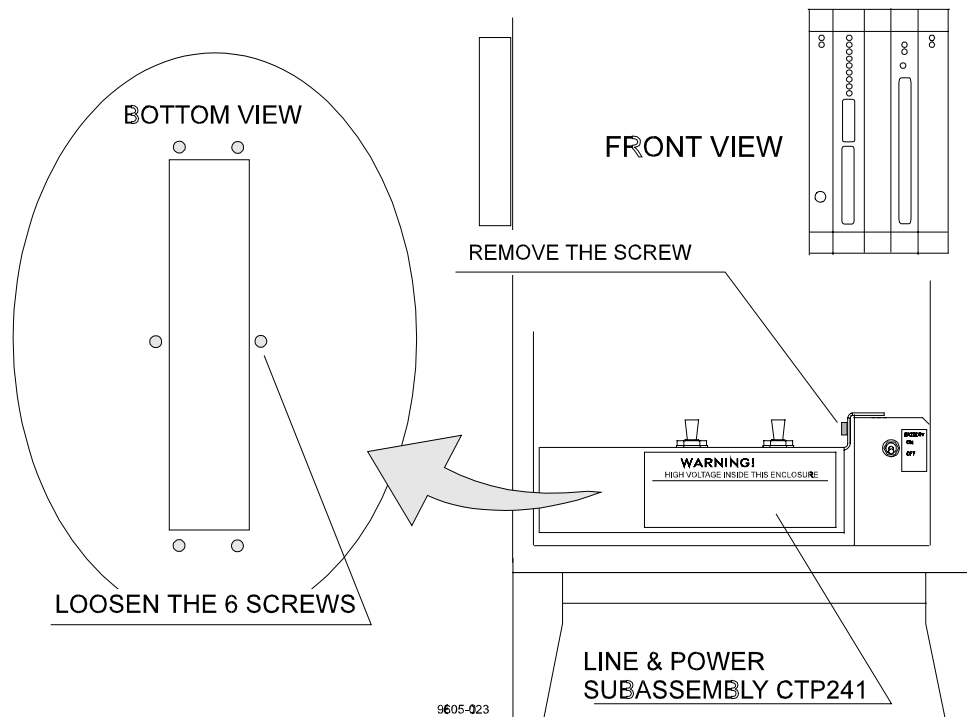

Figure 8-8 Removing Line and Power Interface Subassembly CTP241
3. There are 6 screws at the bottom of the CT25K that are situated **around** the rectangular opening of external connectors J1...J4 (See Figure 8-8). Loosen these screws so that they come out approx. 1 cm (do not remove them completely), releasing the flange of the CTP241.
8. Open and remove the screw and spacer that connects the CTP241 to the battery holder, see Figure 8-8.
2. Set the screw and spacer that connects the CTP241 to the battery holder in places. Tighten the screw slightly by fingers, see Figure 8-8.
7. Turn the 6 screws at the bottom of the CT25K clockwise (Figure 8-8) and push them slightly until they go through the holes in the gasket of the connector flange. Then tighten the screws normally.
8. Tighten the screw that connects the CTP241 to the battery holder (Figure 8-8) to normal tightness.